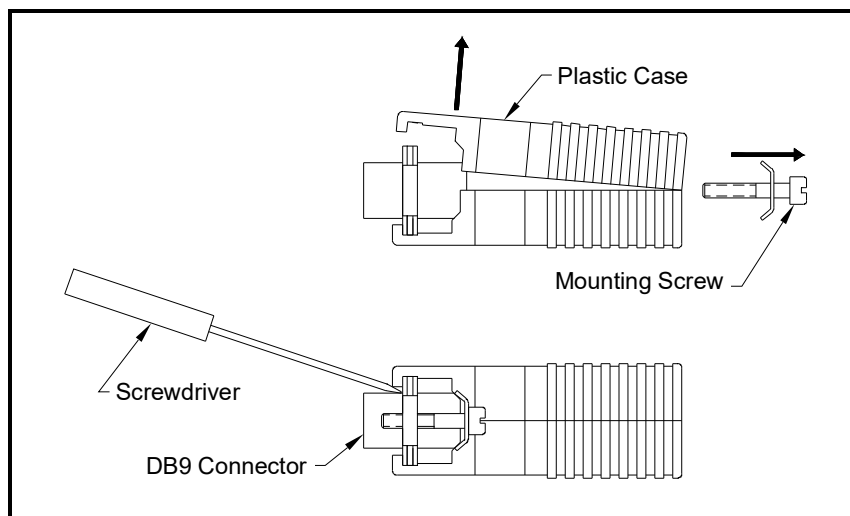

Figure 9: Opening the Converter Case
3. Remove the serial interface converter *mounting bracket* by removing the standoff located just below the **RS232** terminal block and the grounding screw to its left (see Figure 9 on page 91).
5. Use a small screwdriver to pry open the *plastic case* of the serial interface converter, as shown in Figure 9 on page 91.